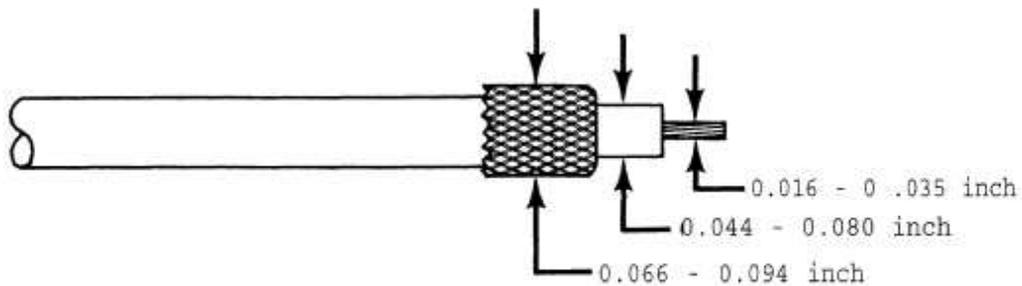

Figure 5-2. Coaxial Cable Size Accommodation: Fold-Back Stripping
- Figure 5-2 applies to cables too small for conventional stripping.